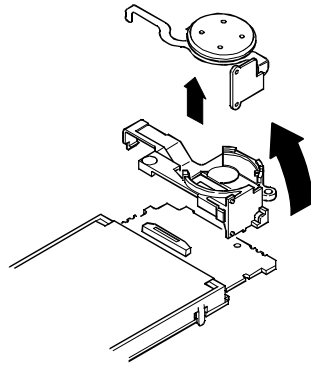

Figure 7: Speaker removal
9. (Figure 7) Unplug the speaker connector from the logic PCB.